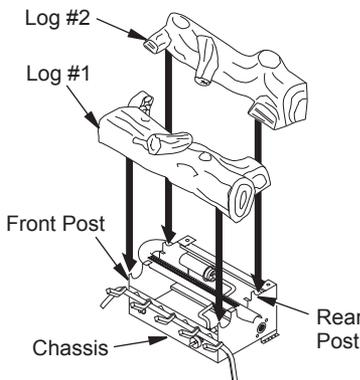
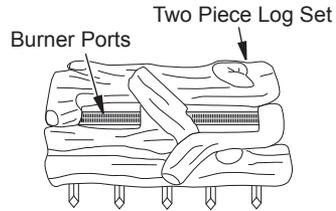

Figure 26 - Installing Vintage Oak Two-Piece Log Set
Figure 27 - Installing Vintage Oak Two-Piece Log Set (Top View)
1. Place front log on top of the grate and over front posts on chassis (see Figure 26).
2. Place rear log on rear of chassis (see Figure 26). Slide log forward so that it sits against rear posts on chassis. **IMPORTANT:** Make sure logs do not cover any burner ports (see Figure 27).